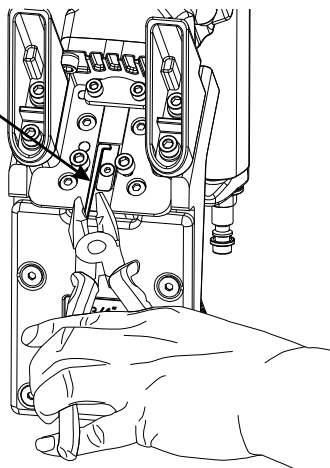

Figure 17
6. Remove jammed fastener, using pliers or a screwdriver if required. (See figure 17)
7. Return the Drive Blade back to its original position. (See figure 17)